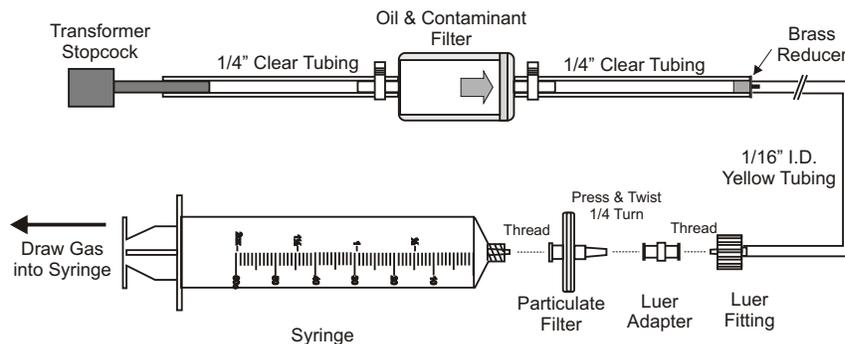

Figure 3.5: Extracting Gas from Transformer, <1 PSI
1. Connect the Transformer Gas Hose Assembly (yellow) to the transformer stopcock in the usual manner. See Figure 3.5.